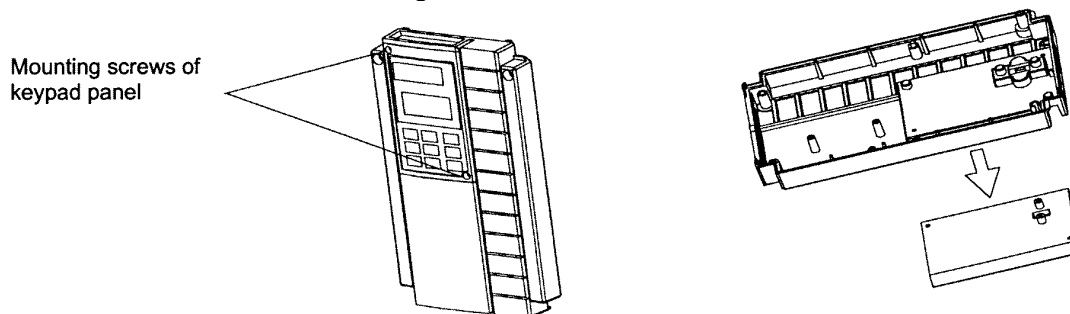

Fig. 1-3-3 Removing the keypad panel
After removing the surface cover as explained in (1), loosen the mounting screws of the keypad panel and remove as shown in Figure 1.3.3.